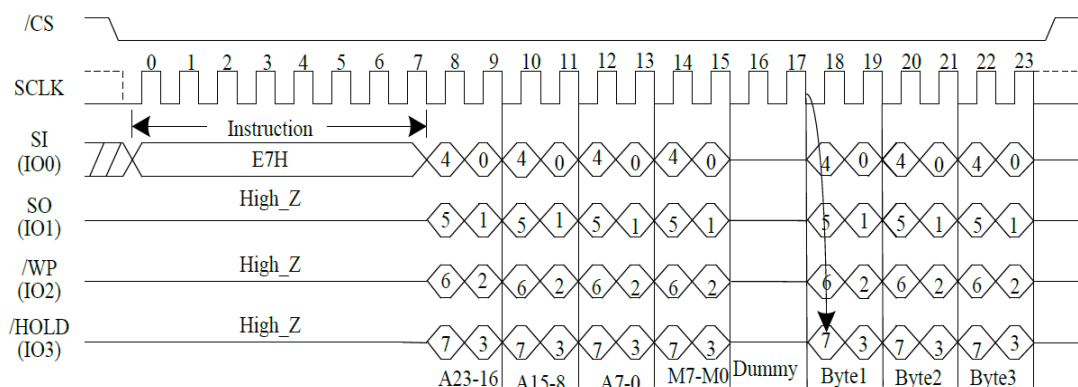

Figure 15. Quad I/O Word Fast Read Sequence Diagram
The Quad I/O Word Fast Read instruction is similar to the Quad Fast Read instruction except that the lowese address bit (A0) must equal 0 and 2-dummy clock. The instruction sequence is shown in the followed Figure 15, the first byte addressed can bi at any location. The address is automatically incremented to the next higher address after each byte of data is shifted out. The Quad Enable bit (QE) of Status Register (S9) must be set to enable for the Quad I/O Word Fast Read instruction.